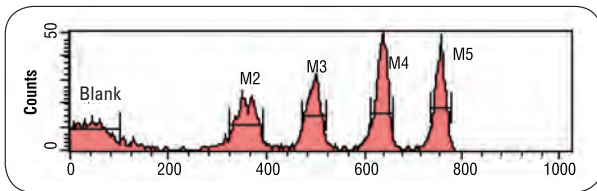

Figure 2
- Verify that the reference blank population appears near the origin of the histogram (Figure 2).
- Analyze the microspheres on the flow cytometer, adjusting fluorescence settings (PMT voltages) as needed. Discernable fluorescence peaks should be observed (Figure 2), confirming the instrument's ability to resolve different intensities.
- A standardized gating practice is recommended, i.e. full-width, half-height gating (Figure 2). This is the gating strategy that we use when making assignments to the microspheres, and will serve to both bring your practices into alignment with ours, and minimize variation between your runs.